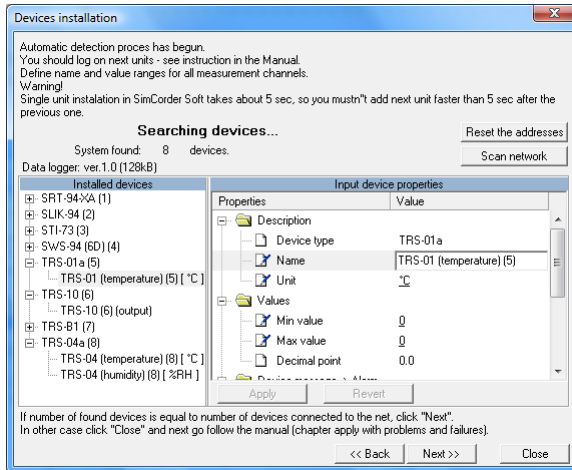

Figure 2.5. Assigning names, units and min/max values
5. Device detection screen allows the assigning of names to detected devices (**Figure 2.5**). Order of devices on the list corresponds to the order of it's detection by software.